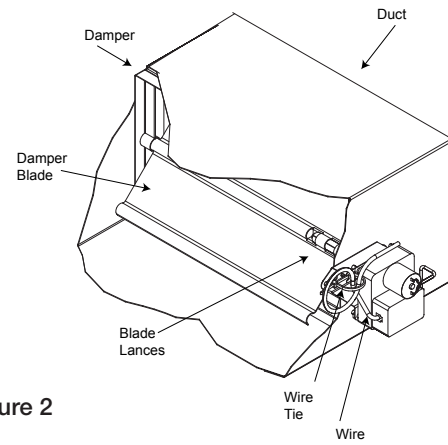

Figure 2
- 1) Install the RBD series damper into the ductwork with the lanced end of the blade positioned to the side of the duct where the actuator is to be located (see **Figure 2**).
- 4) With the blade closed, install the actuator by aligning the coupler over the end of the square pin (as shown in **Figure 2**) and sliding the actuator assembly onto the pin until the bracket is in contact with the duct surface.